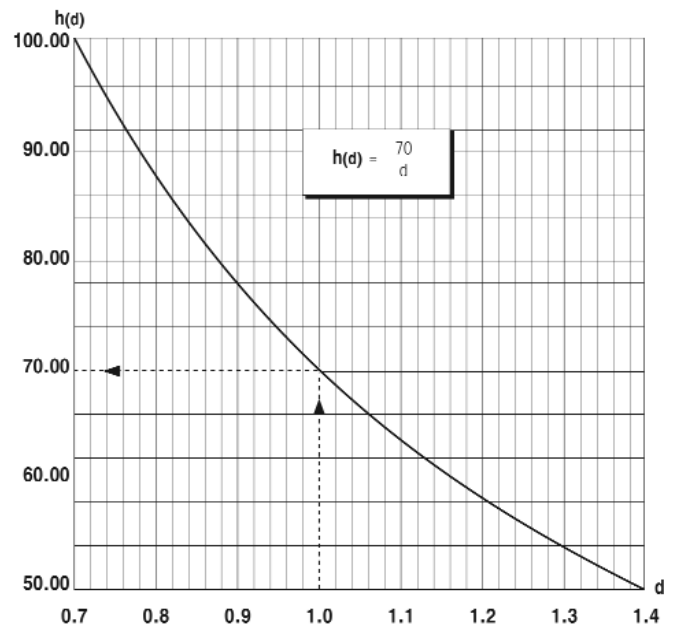

Figure 16
- If the **specific gravity (or the difference of the SG in case of an interface service)** of the available liquid **is between 0.7 and 1.4**: simulate half level $h_{(1.4)}$ of a 1.4 specific gravity liquid with a calculated value $h_{(d)}$ of the available liquid (refer to chart Figure 16).